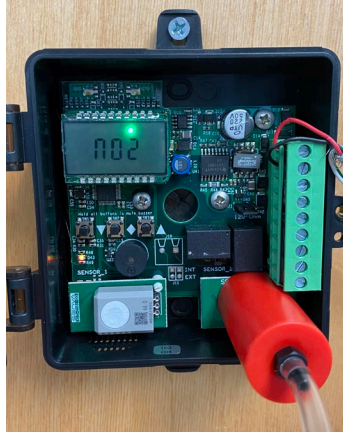

Figure 2: Recommended calibration check setup
- 1) For the fastest and most efficient gas usage, apply gas directly to sensor as shown in Figure 2. After 60 seconds, the device should read about 90% of the expected concentration. For 100%, continue applying gas for a total of 90 seconds.